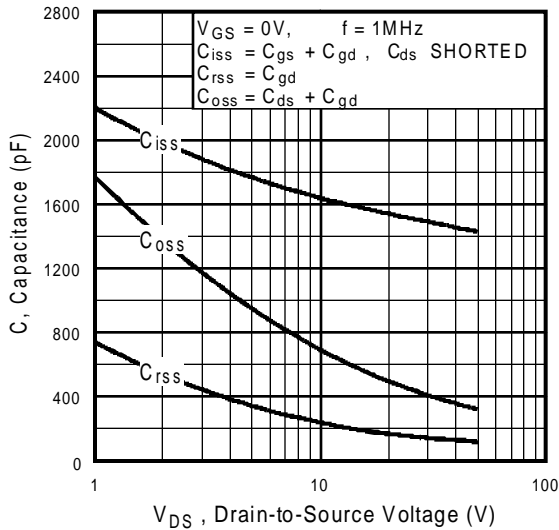

Fig 5. Typical Capacitance Vs. Drain-to-Source Voltage
| C_{rss} | Reverse Transfer Capacitance | — | 160 | — | | $f = 1.0\text{MHz}$, See Fig. 5 ⑤ |